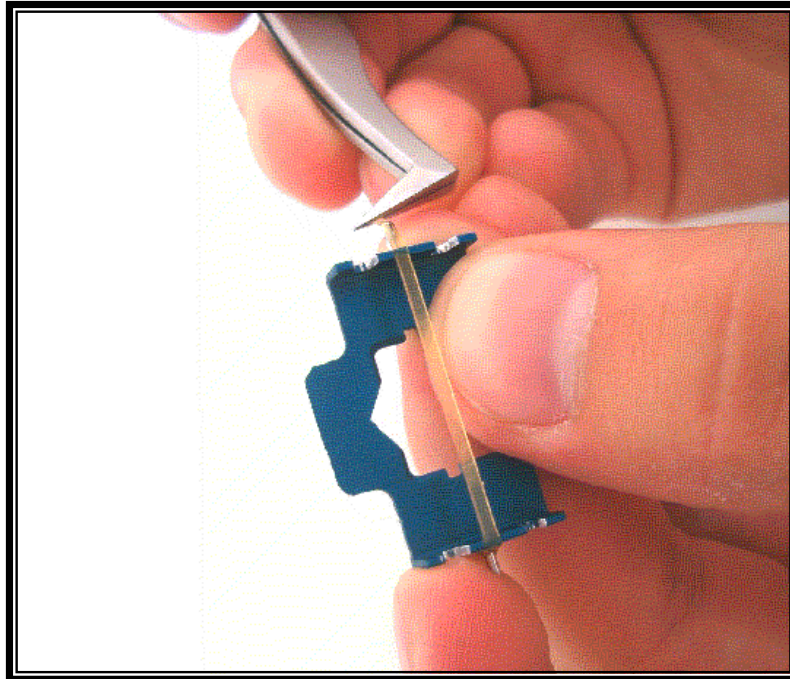

Fig. 2.28: Placing a new rubber strip
5. Place the other side of the rubber strip, as shown in Fig. 2.28.